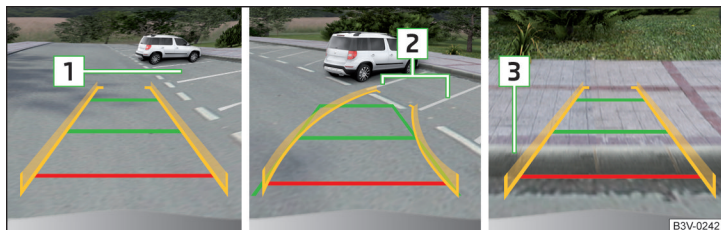

Fig. 266 Screen display
- › At the selected parking space **1** » Fig. 266 slowly drive past and stop the vehicle.